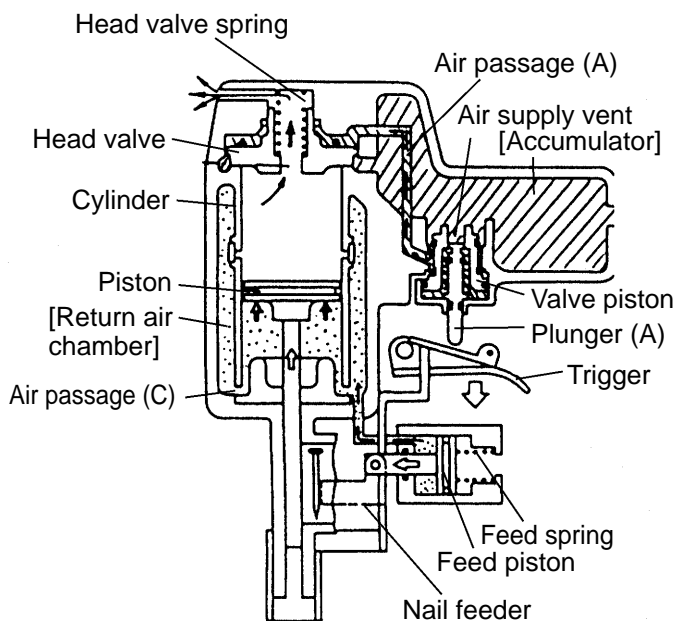

Fig. 11 During return
1. When the piston moves down inside the cylinder, the air below the piston flows through air passage (C) under the cylinder and is accumulated in the return air chamber together with the compressed air flowing through the cylinder hole.
(4) After nailing (see Fig. 11)